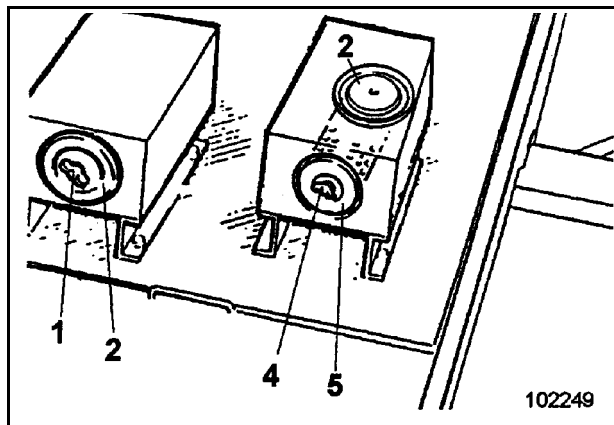

Fig. 3-36:
- Unscrew nut (1, Fig. 3-36:) and remove cover (2).
- Unscrew nut (4) and withdraw main filter element (5). Do not loose the washer under nut (4).